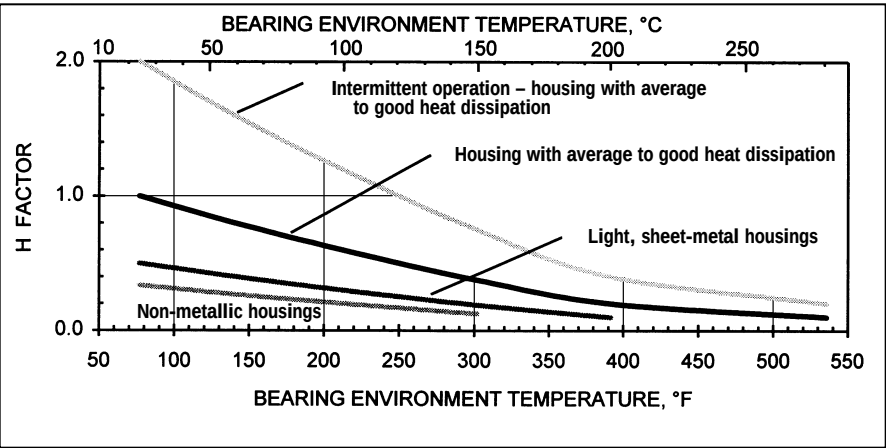

Figure 4-6. DU Heat Dissipation Factor – H for Dry Applications
- H = Heat dissipation factor, Figures 4-6 and 4-7
Liquids may substantially improve bearing performance if hydrodynamic conditions are established. Boundary lubrication performance will depend upon the nature of the liquid and testing should be conducted. In the absence of test data, the values in Figure 4-6 may be used. DU in lubricated environments is covered in detail on pages 4-11 to 4-13.